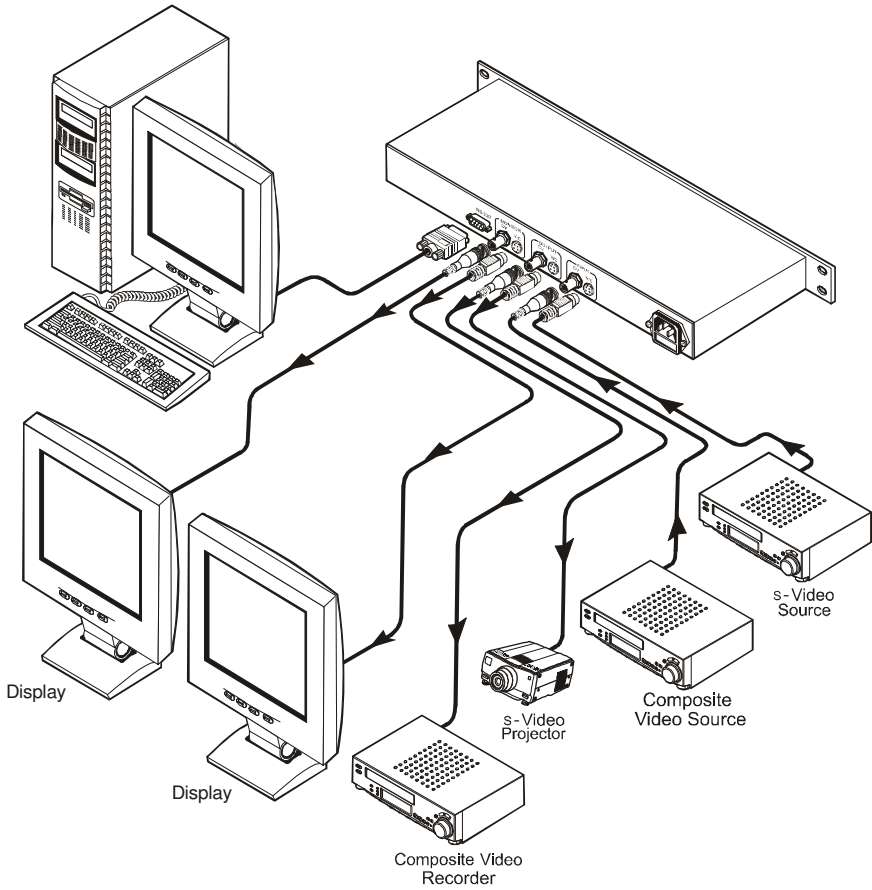

Figure 2: Connecting the VA-2002 Multistandard Logo Generator
¹ As the example in Figure 2 illustrates
To connect the **VA-2002 Multistandard Logo Generator** as the example in Figure 2 illustrates, do the following¹:
7. Connect the power cord (not shown in Figure 2).